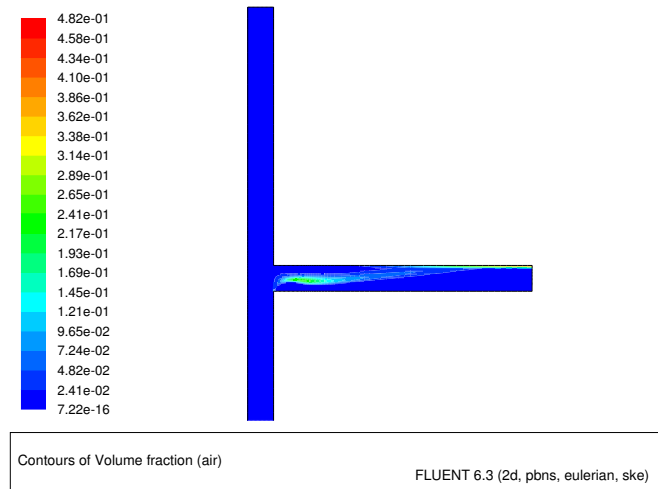

Figure 19.8: Contours of Air Volume Fraction
3. Display the volume fraction of air (Figure 19.8).